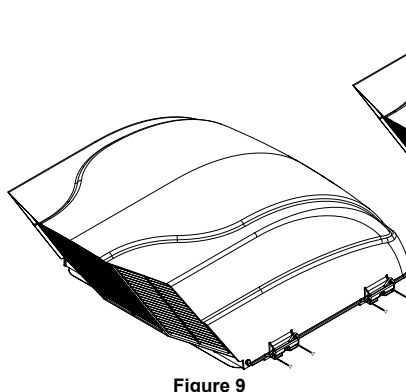

Figure 9
3. Close the **FANMATE®** and mark the location of the feet onto the roof on the opposite side. See Figure 9.
4. Line up the remaining two (2) brackets with the marks just made in step 3 on the roof as shown in Figure 9.